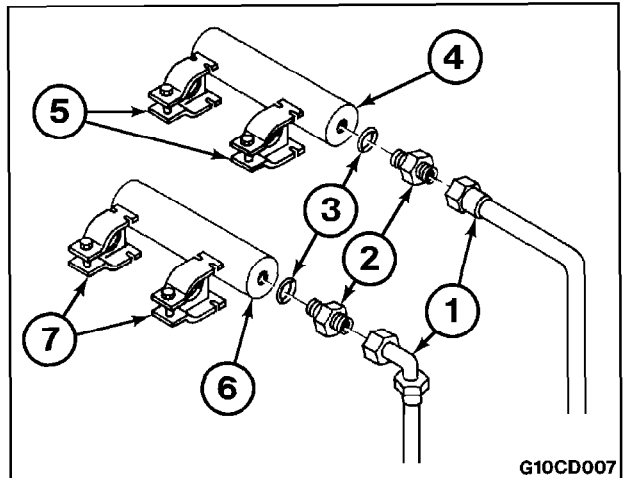

Figure 9
5. Tag and disconnect hoses (1, Figure 9) from fittings (2). Plug and cap hoses and fittings to prevent contamination from entering hydraulic system and accumulators (4 and 6).
6. Loosen clamps (5 and 7, Figure 9) and slide accumulators (4 and 6) out.
7. Remove fittings (2, Figure 9) and O-rings (3) from end of accumulators (4 and 6), if replacement is necessary.